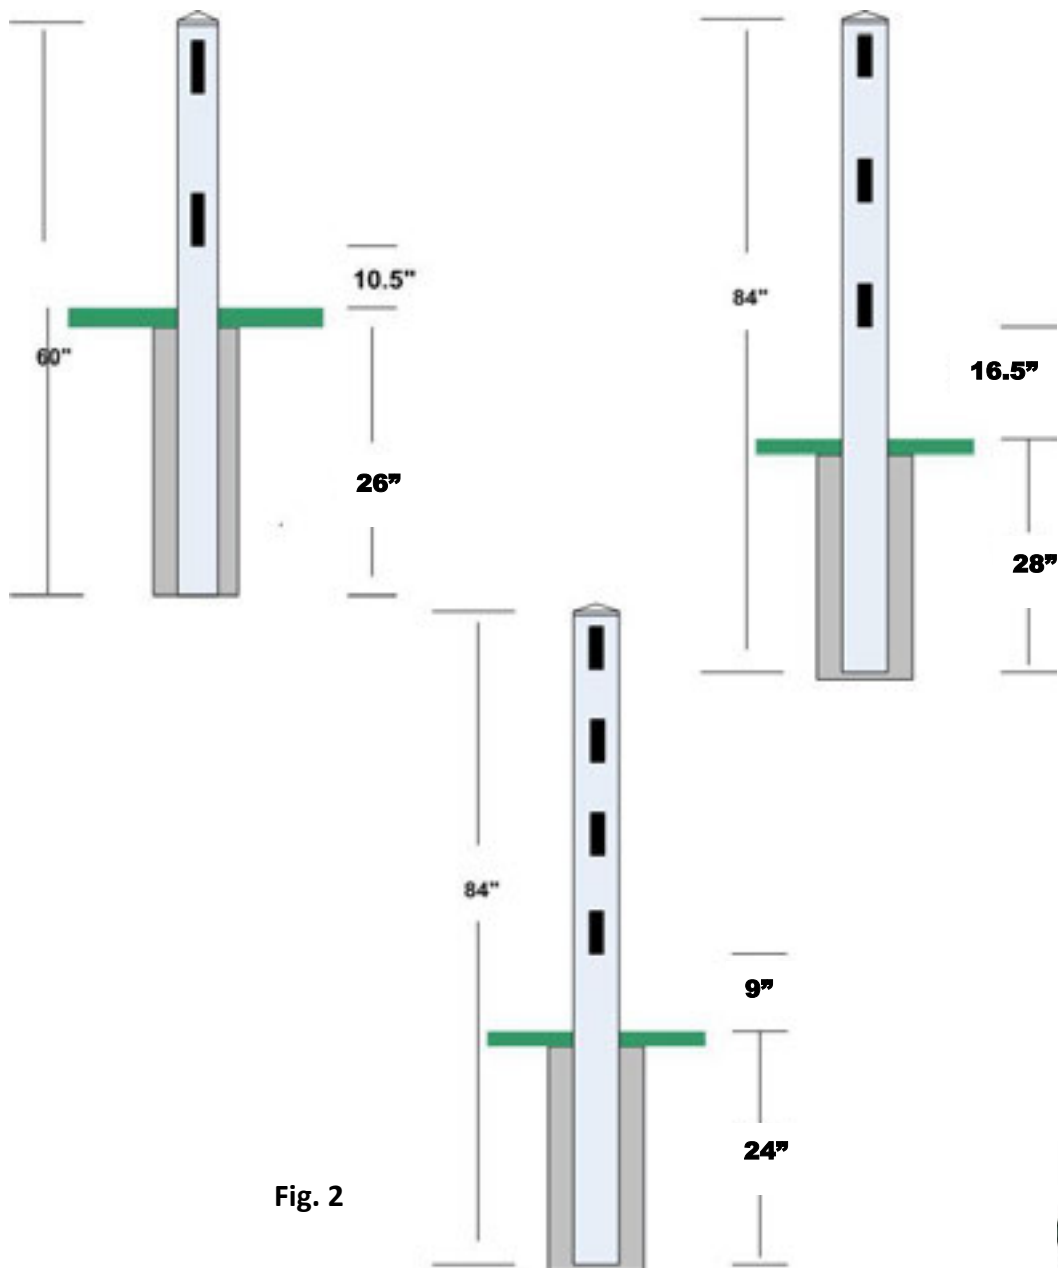

Fig. 2
Step 2. The post should be centered in the hole and must be square with the fence line so that when the rails are inserted into the post, they will parallel the string line. Check the post on two adjacent sides with a carpenter's level and adjust as necessary to make sure it is a plumb. The fence height above grade is determined at this time as well. We recommend following (Fig. 2).